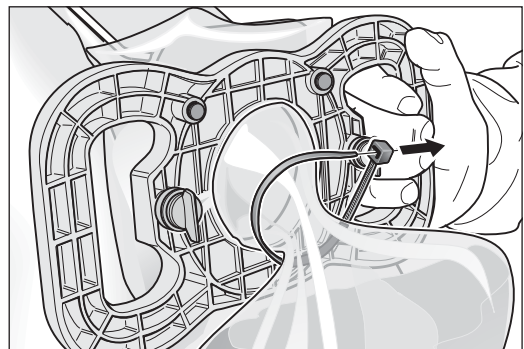

Fig. 24 Seal the waste bag with a cable tie.
- 15 Seal the filled waste bag with a cable tie (Fig. 24).